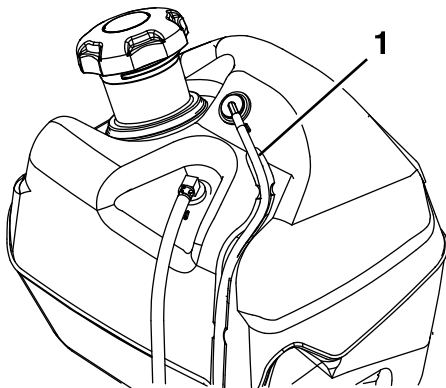

Figure 1
3. Attach the purge hose from the tee on the engine (canister on CA units) to the top fitting of the fuel tank as shown in Figure 1. Press the hose into the slot on the tank to retain it.